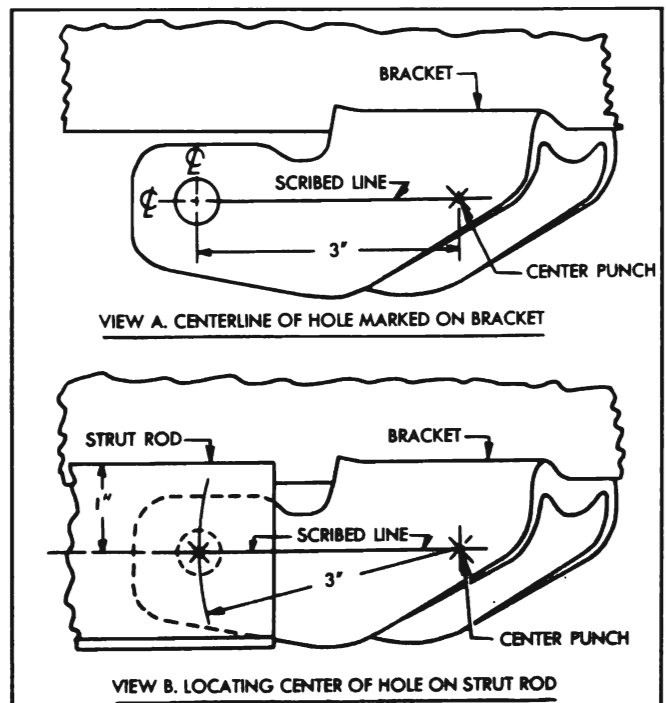

Figure 5-4—Locating Rivet Hole in Strut Rod
4. Before installation of strut rod, scribe a line on bracket in line with the center of rivet hole. Using a pair of dividers set at 3 inches, locate a center-punch mark on the scribed line exactly 3 inches from center of rivet hole. See figure 5-4 view "A".
approximately one inch from scribed line on bracket. See figure 5-4, view "B". It may be necessary to place a shim washer around front bolt between rod and bracket on axle housing to align front end of rod with bracket on torque tube.
6. Using a flexible straight edge, scribe a line on strut rod in line with scribed line on bracket. With dividers set at 3 inches and one leg set in center punch mark on bracket, scribe an arc across the line on strut rod. Center punch at intersection of line and arc. See figure 5-4, view "B".